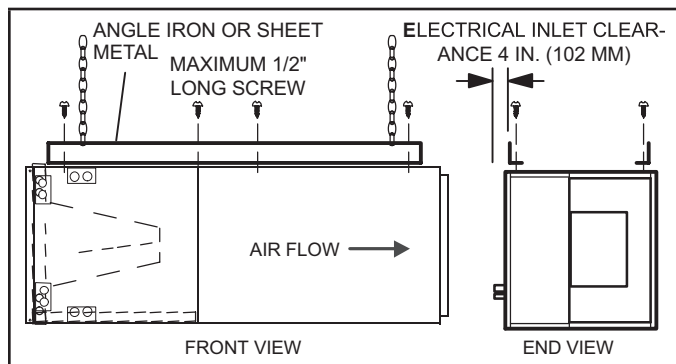

FIGURE 5. Suspending Horizontal Unit
- 5 - If the unit is suspended, the entire length of the cabinet must be supported. If you use a chain or strap, use a piece of angle iron or sheet metal attached to the unit (either above or below) to support the length of the cabinet. Use securing screws no longer than 1/2 inch to avoid damaging the coil or filter. See figure 5. Use sheet metal screws to connect the return and supply air plenums as required.
- 12 - If suspending the unit, it must be supported along the entire length of the cabinet. If using chain or strap, use a piece of angle iron or sheet metal attached to the unit (either above or below) so that the full length of the cabinet is supported. Use securing screws no longer than 1/2" to avoid damage to coil or filter, as illustrated in figure 5. Connect return and supply air plenums as required using sheet metal screws.